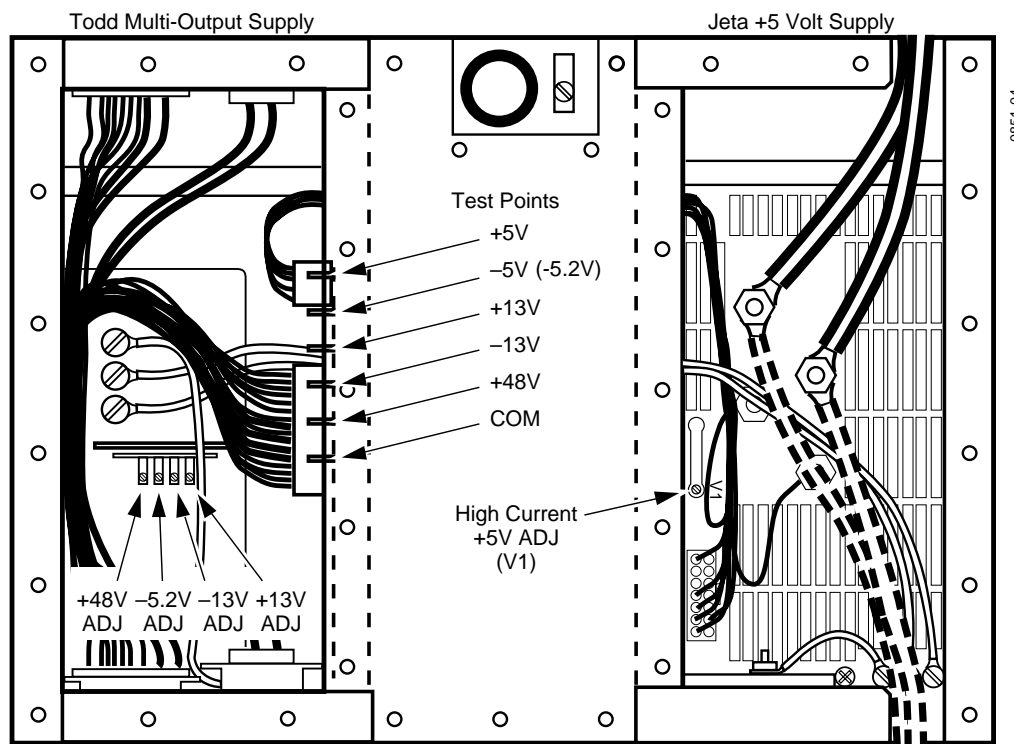

Figure A-3. Voltage Test Points and Adjustments on the Todd Multi-Output and Jeta +5 Volt Power Supplies
The Power Supply Adjustment Procedure given in the Model 4000 Installation & Service manual is correct for both the Todd and Jeta power supplies, except for the location of the +5 Volt adjustment. The location of the high-current +5 Volt adjustment (V1) on the Jeta supply is shown in Figure A-3.
3. Refer to Figure A-3 for adjustment locations. Using a trimpot adjustment tool, adjust the supplies to within 20mV of their labeled voltages. Remember to set the supply labeled -5V to -5.2V .
3. Refer to Figure A-3 for adjustment locations. Using a trimpot adjustment tool, adjust the supplies to within 20mV of their labeled voltages. Remember to set the supply labeled -5V to -5.2V.
6. Measure the lower supply voltages and adjust them to match those of the upper supply within 20mV. Adjustment locations are shown in Figure A-3.